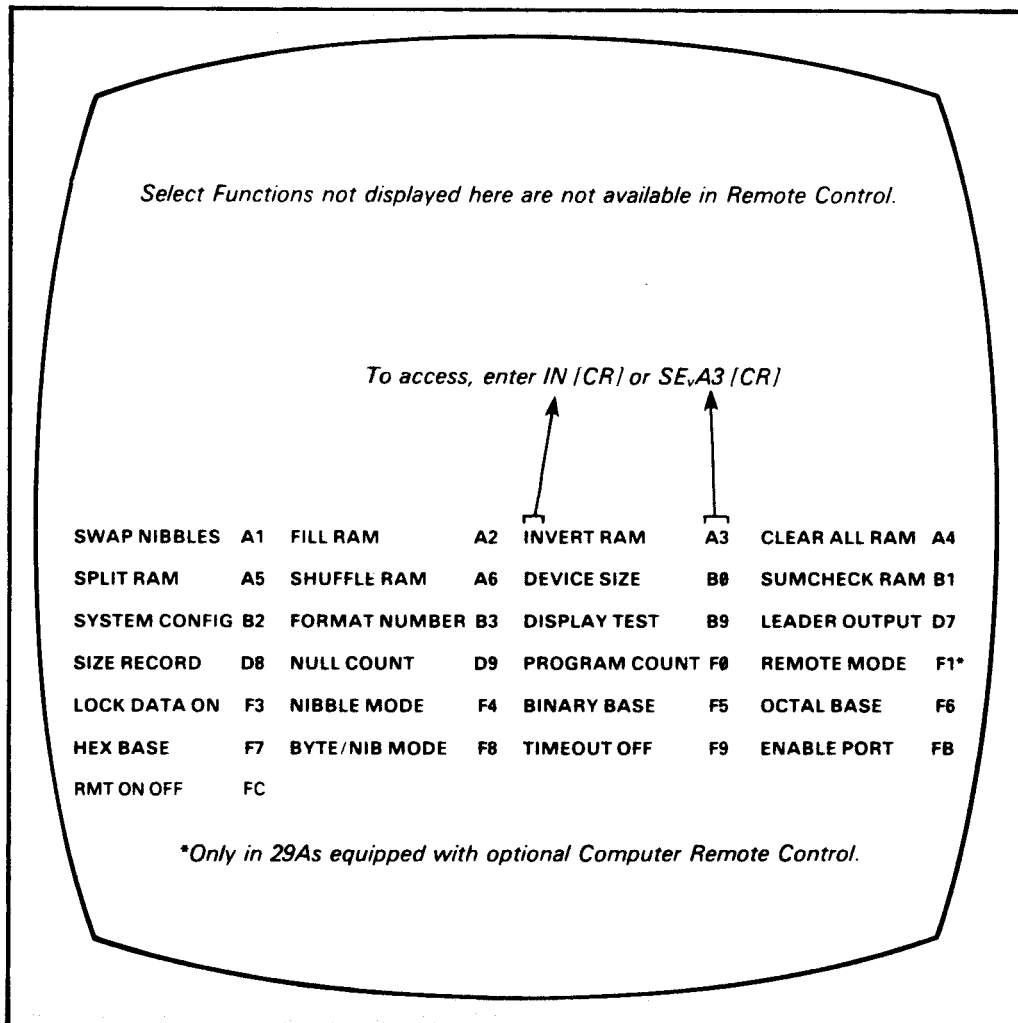

Figure 3-12. Select Function Menu in Remote Control
Figure 3-12 shows the Select Function menu.
- Entering the first two letters of the Select Function (as shown in Figure 3-12) followed by a [CR].